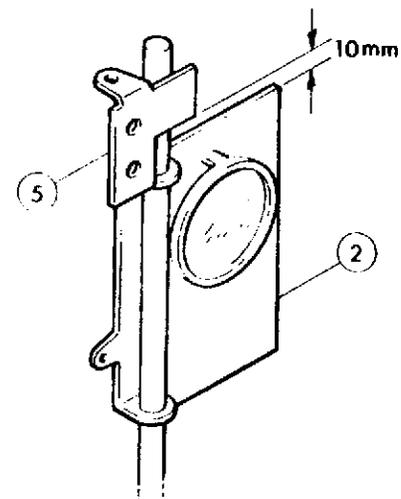

Fig.30
1. Replace the heat-proof glass of (2) if broken or dim.
2. Make sure that (2) can move smoothly.
3. Attach (2) without inclination where it does not touch with the lamp case in operation.
4. Adjust the positions of (10) and the switch assembly where a clearance between (2) and (5) is 1.0mm when the operation knob is at OFF as shown in Fig. 30.